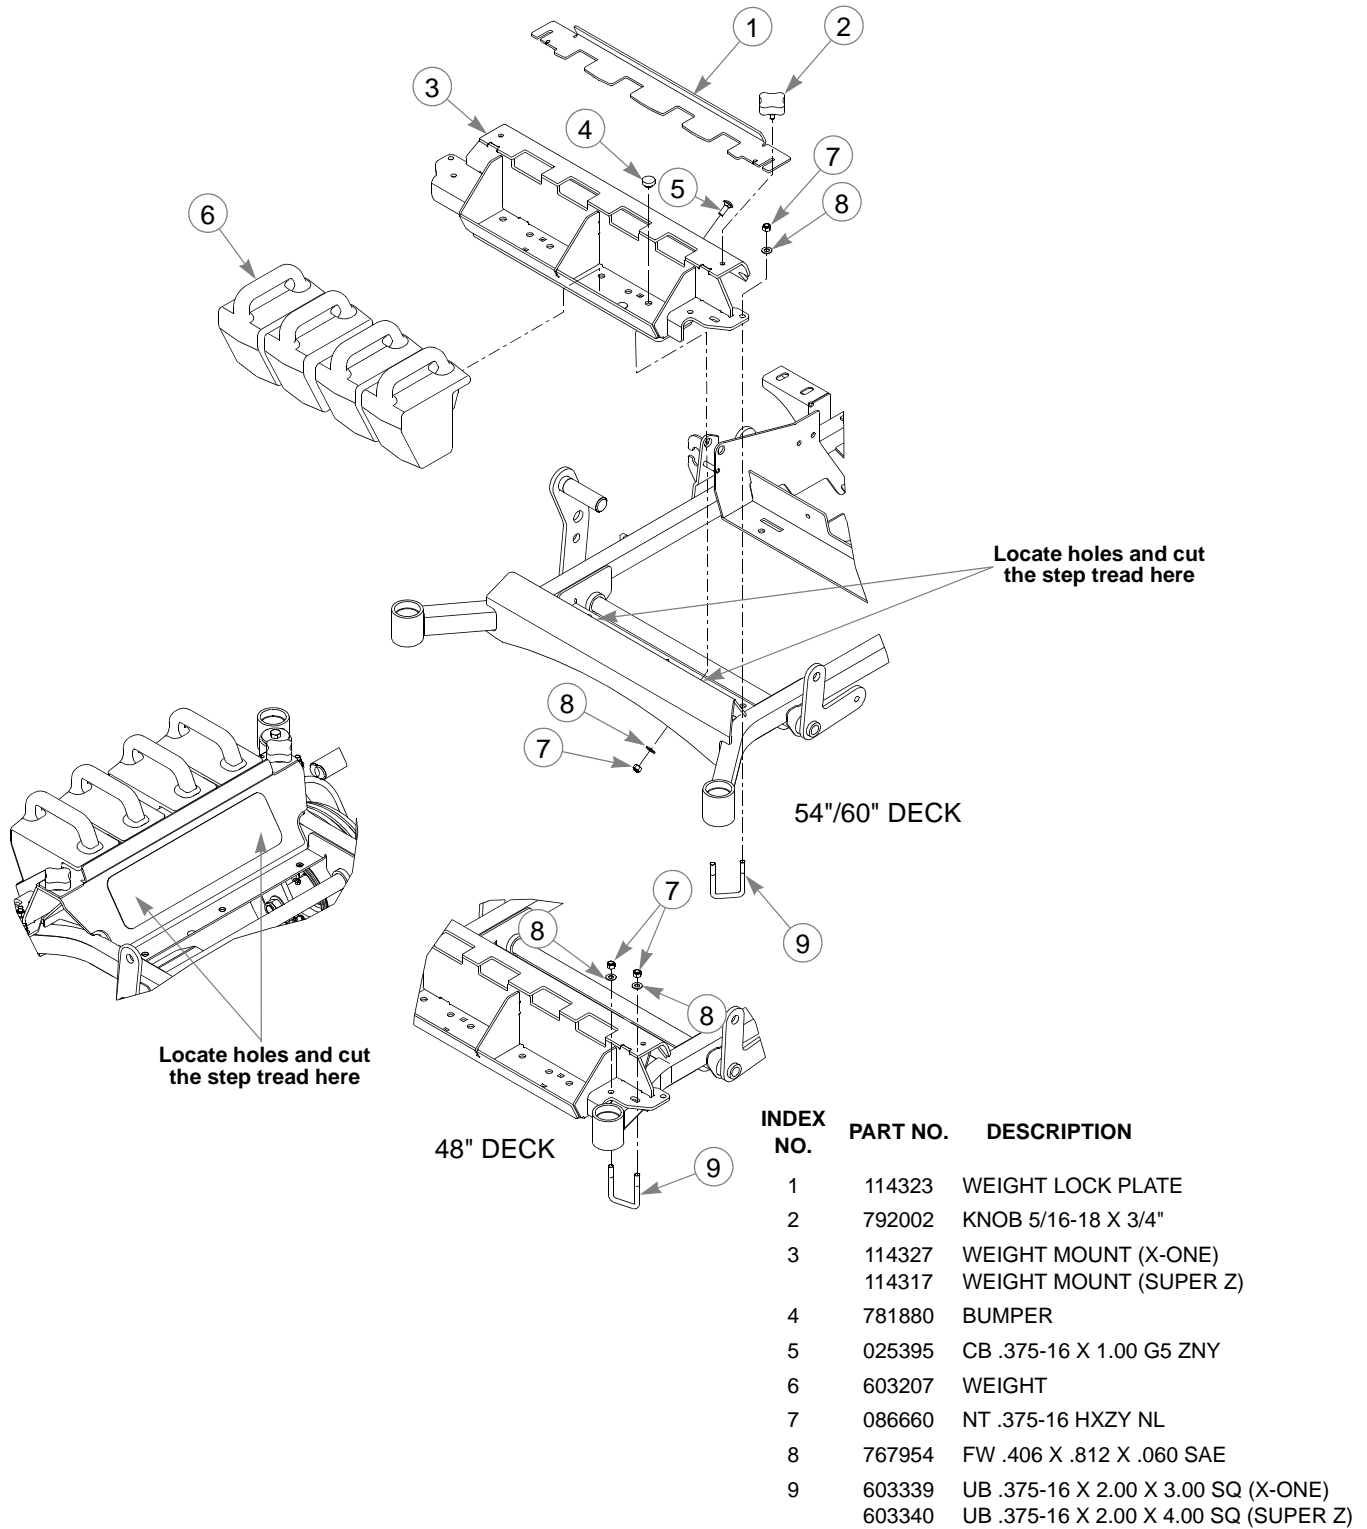

Figure 3-14
8. Locate the holes that are located under the step tread on the counter weight mount. Using the holes as a guide cut the step tread away from the holes to allow the mounting bolts to go through. Figure 3-14
9. Locate the holes that are located under the step tread on the mower frame. Using the holes as a guide cut the step tread away from the holes to allow the mounting bolts for the counter weight mount to go through. Figure 3-14
10. Attach the counter weight mount to the front of the mower. Figure 3-14
11. Slide the weights vertically onto the mount and lock in place using the weight lock plate and tighten knobs. Figure 3-14